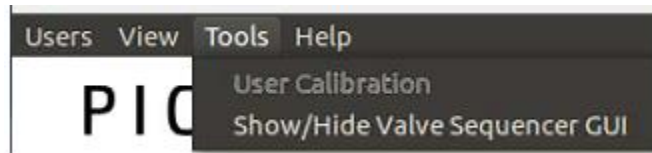

Figure 50: Show/Hide Sequencer Drop-Down
2. On the status bar menu of the analyzer *Data Viewer* screen, select **Show/Hide Valve Sequencer GUI** drop-down (Figure 50).